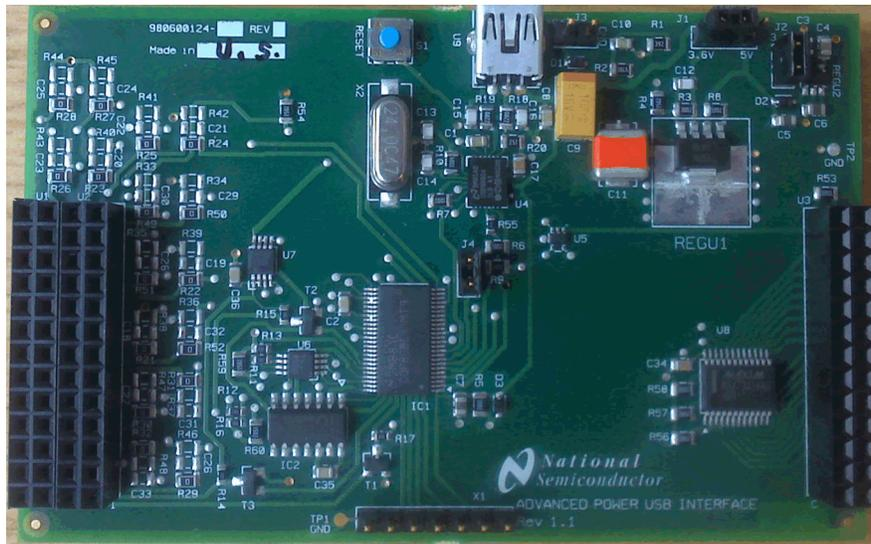

Figure 2. USB2PWI Interface Board
- USB2PWI interface board, as shown in Figure 2